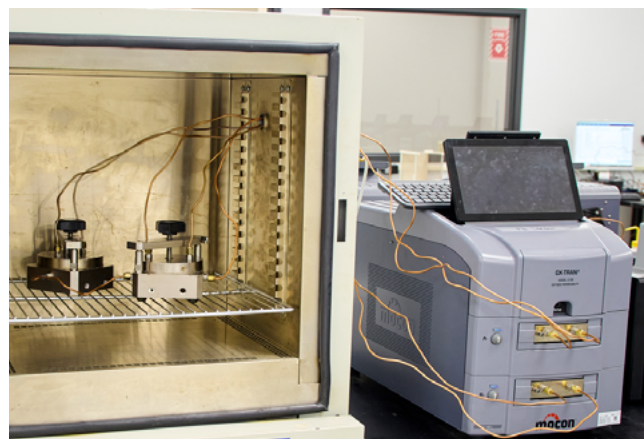

Figure 4 - Remote cells and instrument are connected
- Connect the Remote Film Test Cell and the Package Adapter Cartridge via copper tubing (Fig. 4).